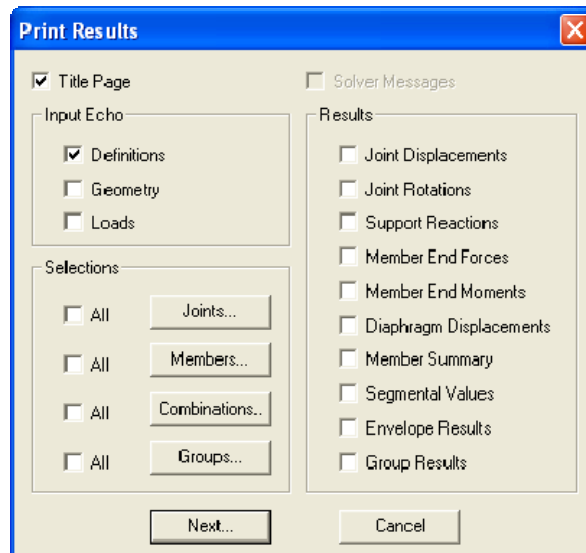

Figure 3-6 Print Results dialog box
- From the File menu, select Print Results. The dialog box of Figure 3-6 appears.